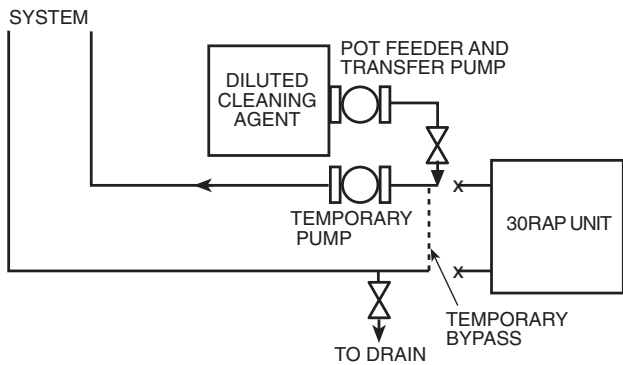

Fig. 19 — Typical Set Up for Cleaning Process
1. Install a temporary bypass around the chiller to avoid circulating dirty water and particulates into the pump package and chiller during the flush. Use a temporary circulating pump during the cleaning process. Also, be sure that there is capability to fully drain the system after cleaning. (See Fig. 19.)